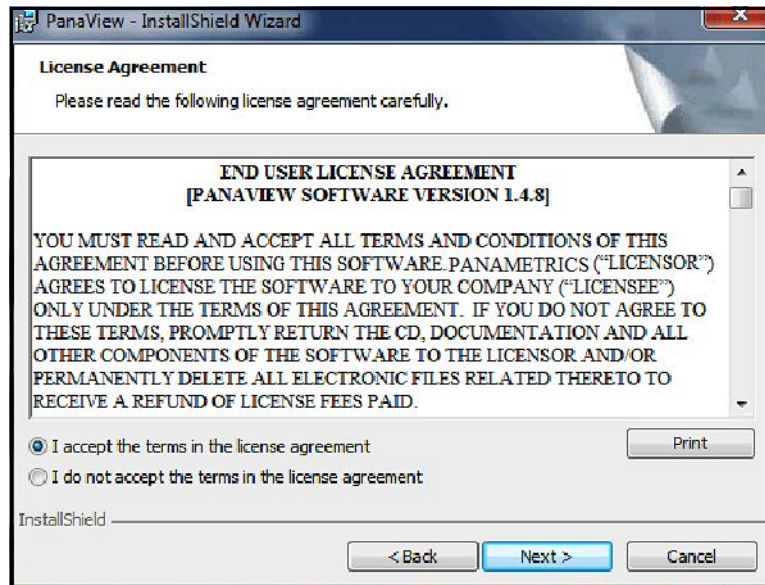

Figure 5: Licence Agreement Screen
- Next, the *End User Licence Agreement* shown in Figure 5 below opens. Click the radio button for “I accept the terms in the licence agreement,” and click on the **[Next]** button to continue.